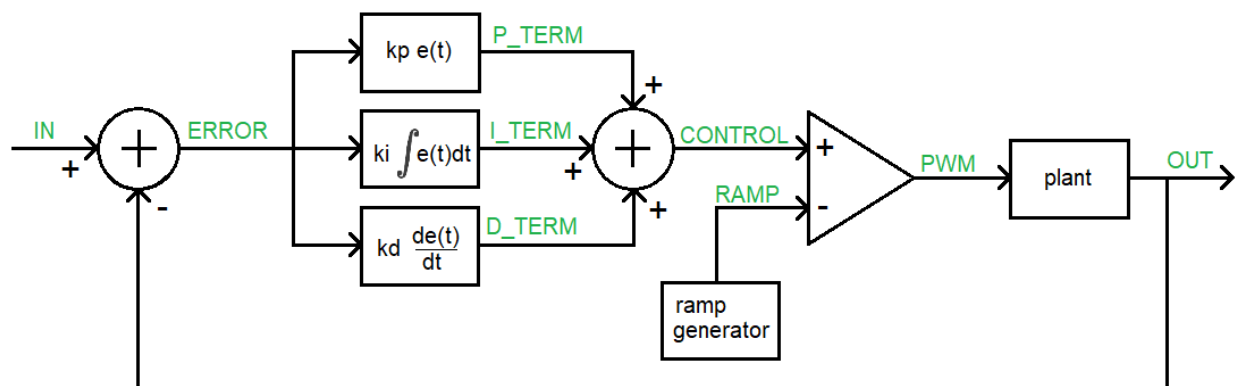

Figure 1: High-level architecture of the PID Controller board.
A high-level overview of the PID Controller board is shown in Figure 1. The input comes from either a push-button (step input), a potentiometer (analog input), or a function generator. The K_p , K_i and K_d terms are adjustable from 0 to infinity using a potentiometer. The control signal is converted into a PWM signal whose duty cycle is proportional to the control signal. This PWM signal is sent to the plant (a low pass filter) and converted into an analog output.
Your task is to identify the building blocks in the PID controller schematic, analyze their behavior and relate these building blocks to the PID controller shown in Figure 1. When referencing opamps in the schematic, use the “ICxx” label, not the “TLC274P” label. When needed, assume that $V_{CC}=9V$ and $V_{SS}=-9V$.
- a. What opamp and resistors form the summer junction that outputs **ERROR** in Figure 1.
- a. What opamp/resistors in the form the first stage of the **P_TERM** in Figure 1?
- c. What opamp/resistors form the second stage of the **P_TERM** in Figure 1?
- a. What opamp/resistors in the form the first stage of the **I_TERM** in Figure 1?
- c. What opamp/resistors form the second stage of the **I_TERM** in Figure 1?
- a. What opamp/resistors in the form the first stage of the **D_TERM** in Figure 1?
- c. What opamp/resistors form the second stage of the **D_TERM** in Figure 1?
- a. What opamp and resistors form the summer junction that outputs **CONTROL** in Figure 1?
- a. Given RAMP (in red) and CONTROL (in blue) shown in the following timing diagrams, draw the output PWM signal using the open-loop opamp configuration shown in Figure 1.